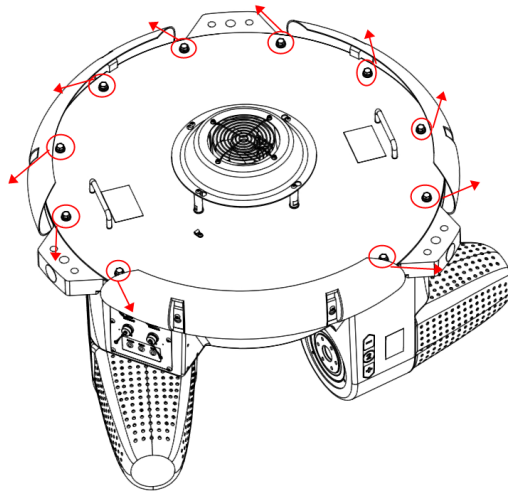

Figure 4-1 Remove the top cover cover screws
Step 2 Use a 12 mm open-end wrench to turn counterclockwise to remove the 12 M8×16 hexagon head flange bolts on the top cover, as shown in Figure 4-1.